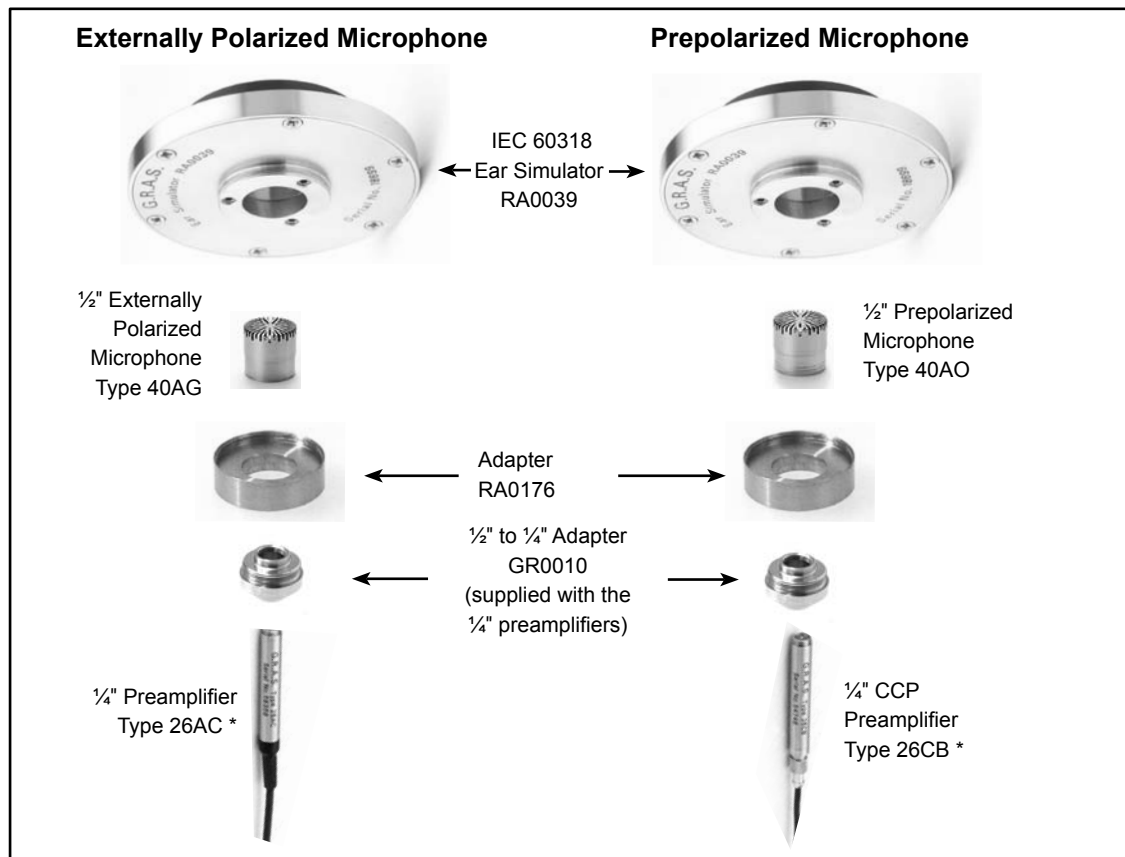

Fig. 5.1 Both assembly options for tests using the IEC 60318 Ear Simulator RA0039
- The items of one of the two assembly options shown in Fig. 5.1
Fig. 5.1 displays the two options for configuration with Ear Simulator RA0039.